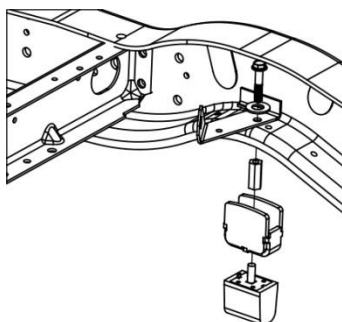

Figure 25. Jounce stop installation.
3. Slip the Spacer and Bumper assembly under the frame and reattach to the Driver Side frame and brake bracket using the M10-1.5 x 50mm Hex Flange Bolt and 5/8" HFW. Torque to **25-30 ft-lbs.** See Figure 25
4. Locate (1) Bump Stop Spacer, (1) M10 Coupler, and (1) M10-1.5 x 50mm Hex Flange Bolt.